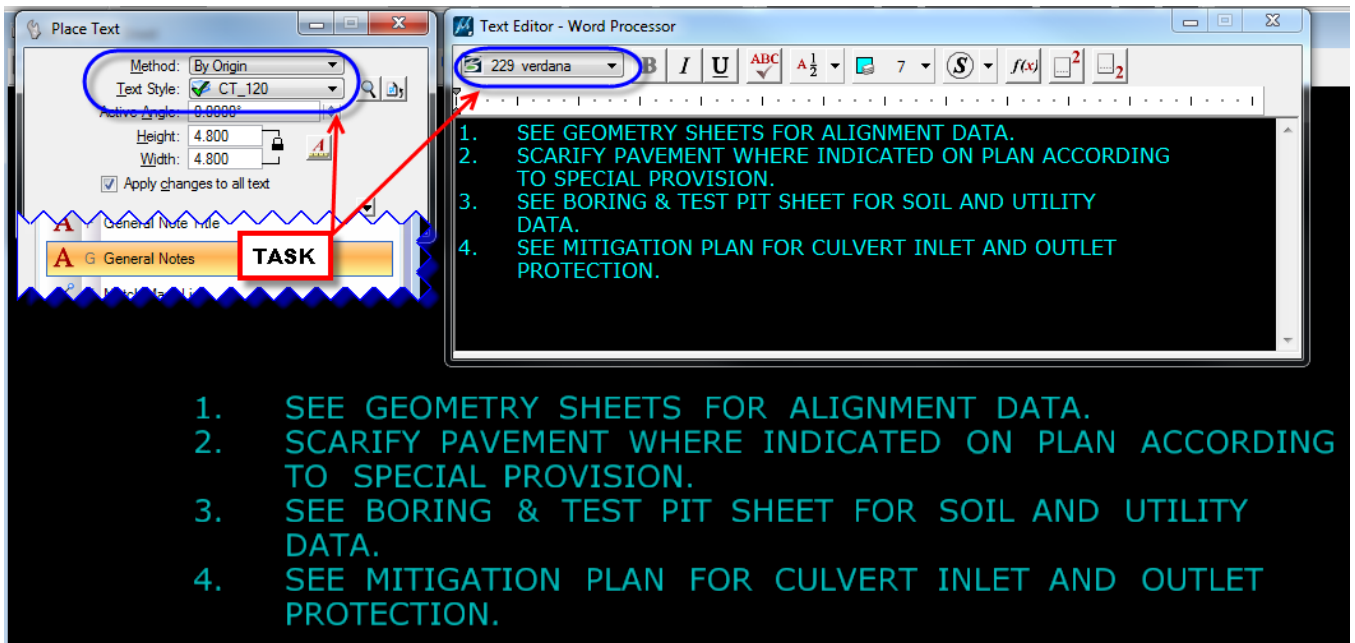

Figure 80 - General Notes Task
2. In **MicroStation** click on the **General Notes task**. This will set your level, text style and symbology. See Figure 80.